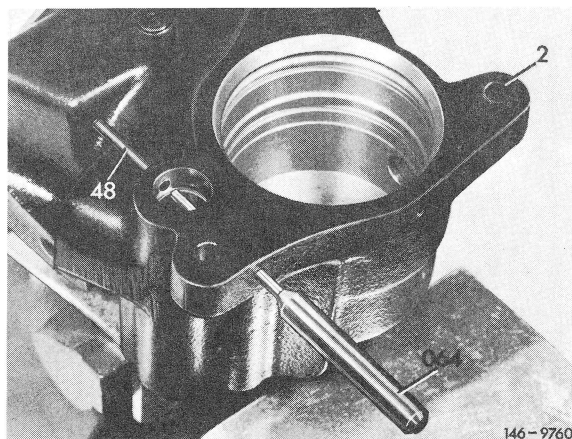

Fig. 5
10 Knock locking pin (48) out of pump housing (2) with punch (064) (Fig. 5).